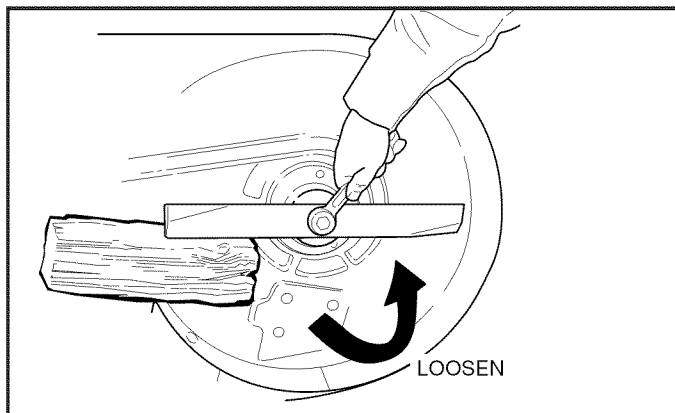

Figure 24
2. To remove blade, use a block of wood to prevent blade rotation while loosening the capscrew (see Figure 24).